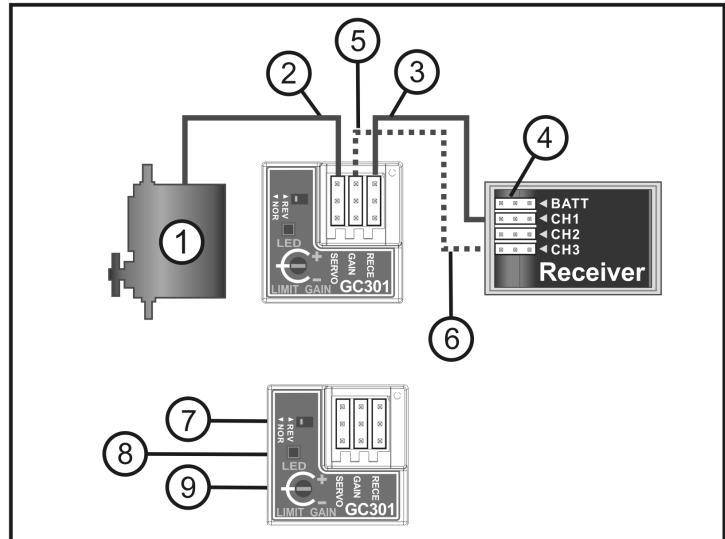

Figure 2
If you want to use connection version 1, then connect the servo cable of the steering unit (1) in the plug "SERVO" of the module (2) as shown in Figure 2.
→ In Figure 2 you can also see the reverse switch to change the rotational direction of the gyro function (7), the LEDs to check operation (8), and the potentiometer to adjust the gyro sensitivity (9). Please read directions concerning these elements in the following points of these operating instructions.
Now turn on the transmitter and then the receiver. The gyro component begins the calibration process. The red LED lights up and the green LED (see Figure 2, pos. 8) blinks in a slow rhythm. When the gyro is calibrated, only the red LED remains lit.
If this does not happen, then the gyro's operating direction must be changed. To do this shut the receiver off. With a suitable tool (for instance a small screwdriver) the reverse switch (see Figure 2, pos. 7) must be altered. Turn on the receiver again and check for the correct rotational direction of the steering servo.